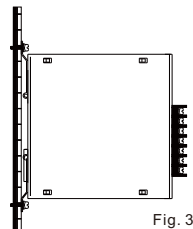

Fig. 3
4. For mounting power unit by mounting bracket, please loosen screws on mounting bracket and pull both brackets outer. And then re-screw the mounting brackets to get easier operation of mounting on wall/plate. (Fig. 3)